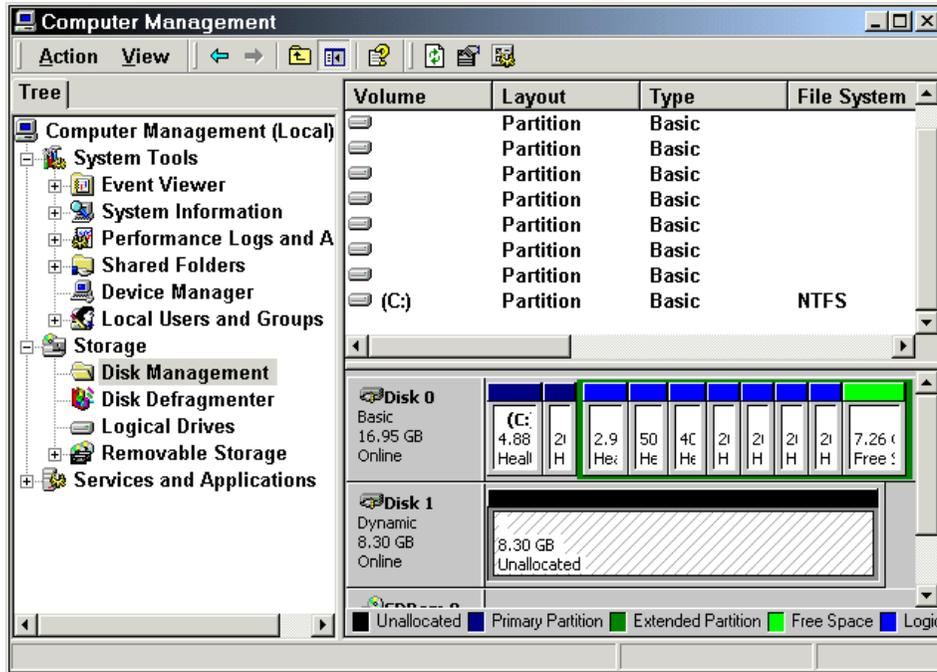

Figure 1-18 Disk Management — disk 1 unallocated and unformatted
- At that point, Windows 2000 recognizes the newly added storage devices, and it is able to perform a volume format, as shown in Figure 1-18.